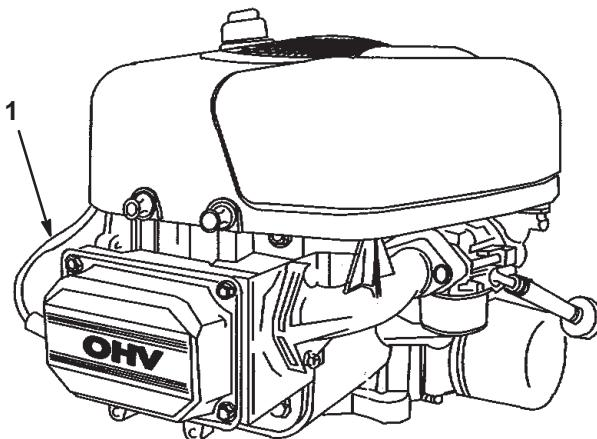

Figure 26
3. Pull the wire off of the spark plug (Fig. 26). Clean around the spark plug to prevent dirt from falling into the engine and potentially causing damage.
3. Push the wire onto the spark plug (Fig. 26).